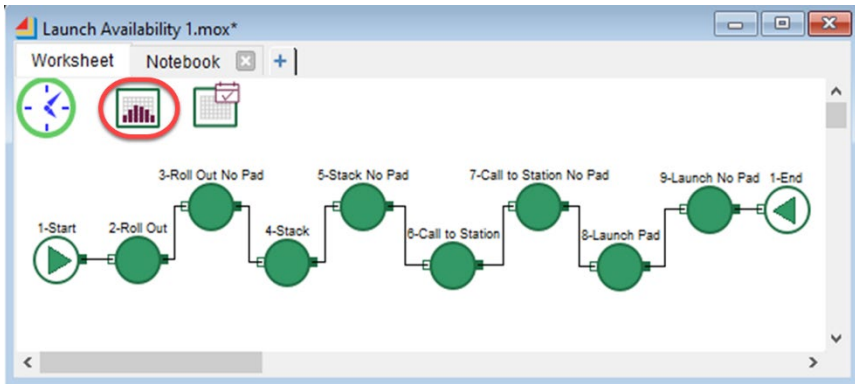

Figure 11-6: Node naming
Step 3: After all the nodes have been added to the worksheet and connected, you should name them as we did with the Software Availability model, according to *Figure 11-6*.
Step 19. Add/clone the simulation setup to the worksheet as shown in *Figure 11-6*.